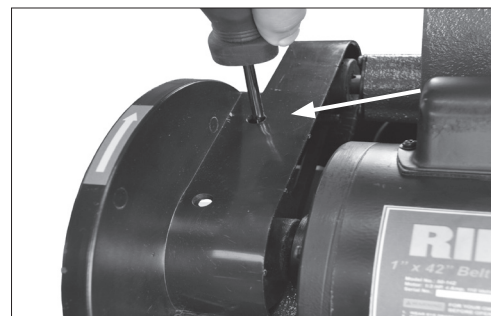

FIG. 5
11. Position the belt & disc Drive Belt Guard (#37) over the pulleys as shown in FIG. 5.